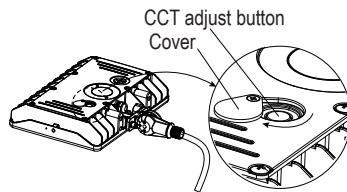

Figure 2
Step 2: Loosen the screw holding the button cover, and slide the cover on the side. (Figure 2)